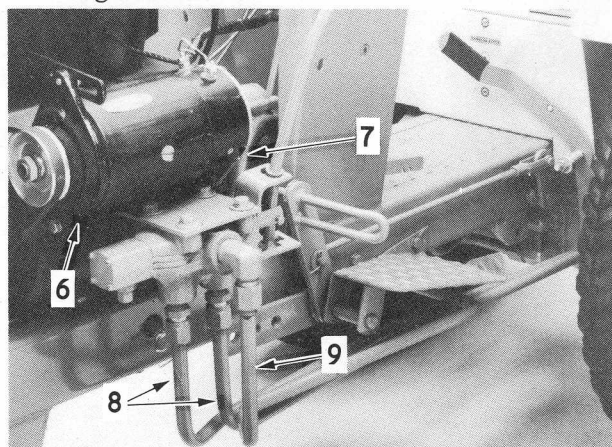

Figure 12. Installing the Hydraulic PTO Kit
7. See Figures 12 and 13. Secure the straight end of the hose to elbow at the inside of the PTO valve and connect the elbow end to the pump.
8. Secure the two long tubes to the bottom fittings on the PTO valve. The tube with the formed offset goes to the front valve port and is located to the inside as shown in Figure 12.